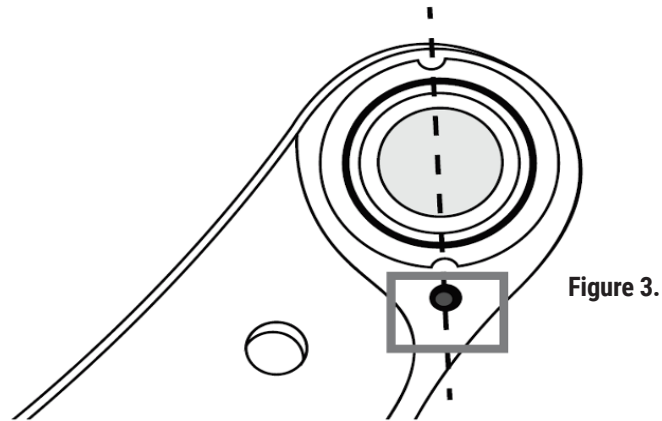

Figure 3.
- Locate control arm index mark. This may take the form of a hole, dimple, tab, notch or arrow. Ball joint index marks must align with control arm index mark during installation. **See Figure 3.**